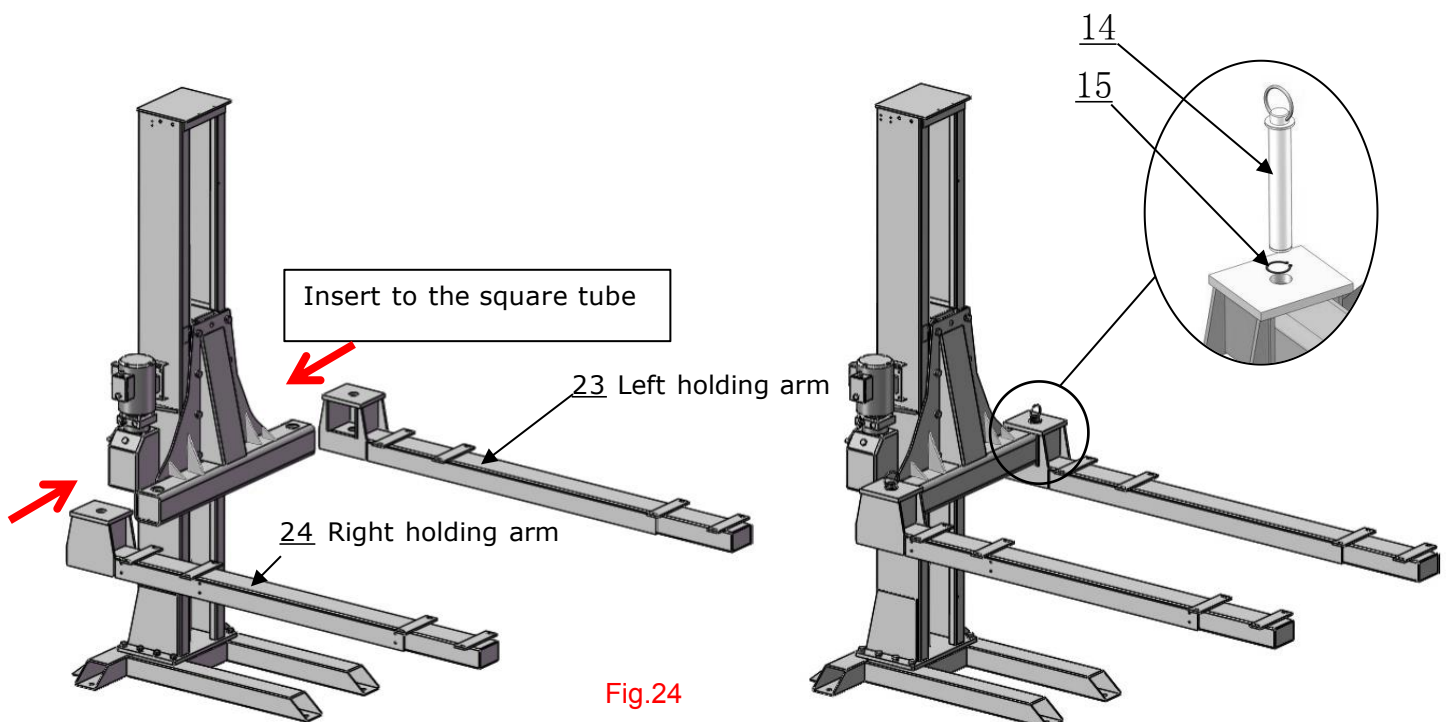

Fig.24
I. Install lifting arms (See Fig.24)